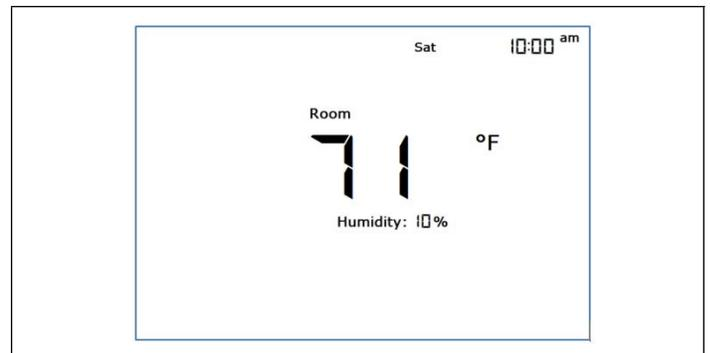

Figure 3-19 - Main User Interface (Backlight Off)
- The main user interface menu is shown in **Figure 3-19**: